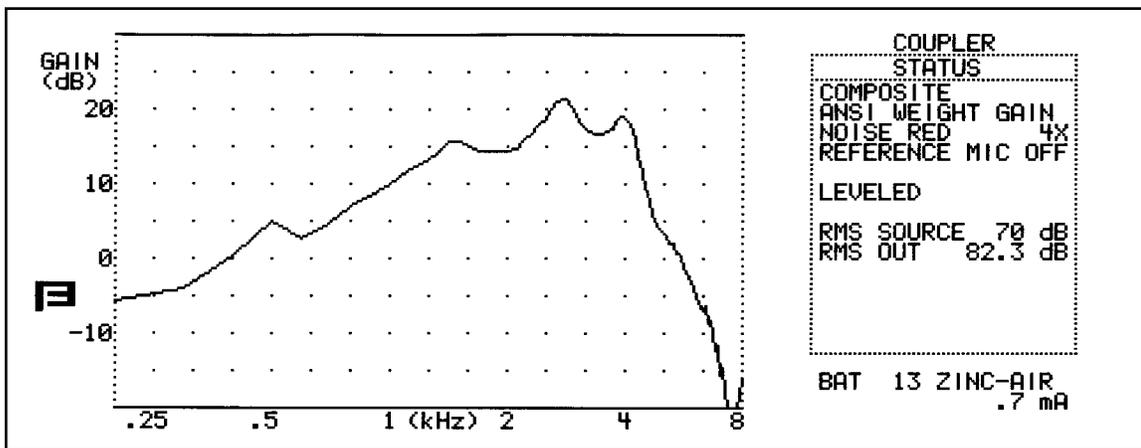

Figure 2.6B—Coupler screen with battery drain
4. Press F1 to exit back to the Main Coupler Screen. You should now see a battery current reading under the Status Box. See Figure 2.6B.